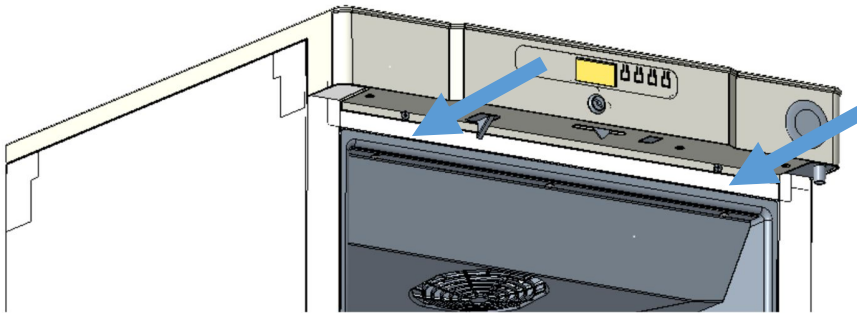

Fig. 20
1. Remove 2 screws of top cover as shown in figure 20